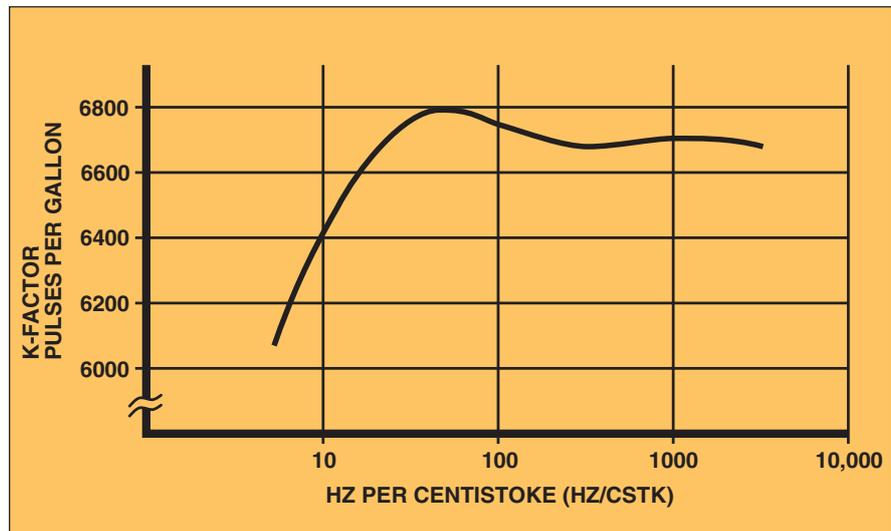

Figure 1: Universal viscosity curve
**What to do when viscosity varies:** Ideally, a positive displacement meter should be used. However, if the application requires the use of a turbine meter, a special viscosity calibration can be performed, called a Universal Viscosity Calibration (UVC). The turbine meter is calibrated over a range of viscosities (typically three) to generate a curve which characterizes the performance of the meter at different viscosities (see Figure 1).